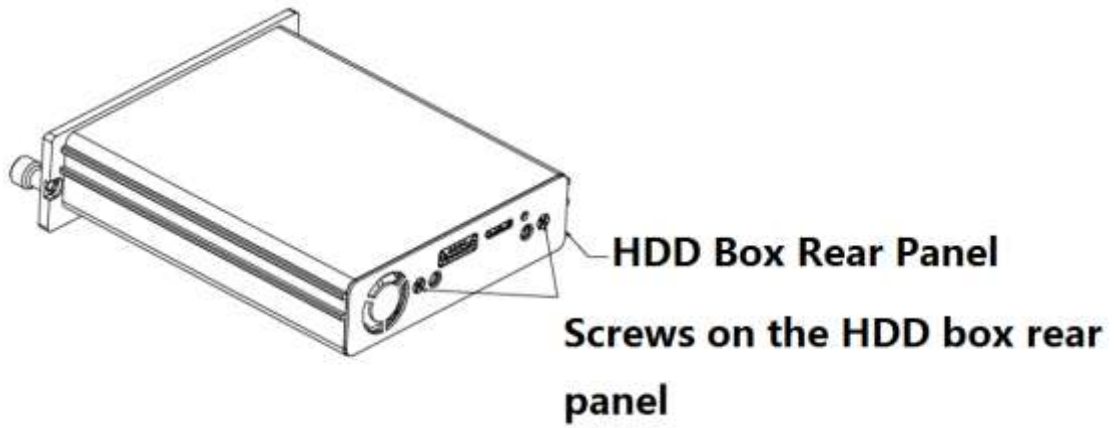

Figure 3-1
The unit you received has no HDD. Please remove the HDD box from the device (See Figure 3-1) and then follow the steps listed below to install.
Step 1 The HDD box and the parts are shown as below. See Figure 3-1. It includes HDD box rear panel and screws.